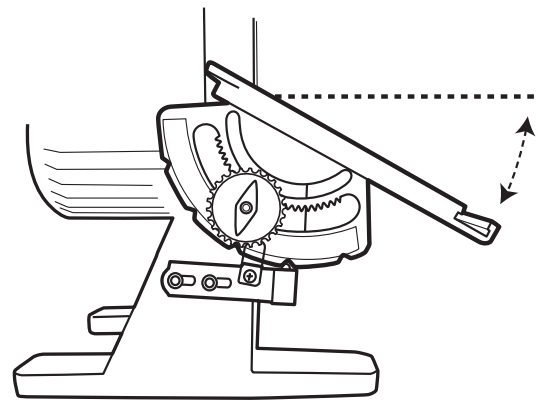
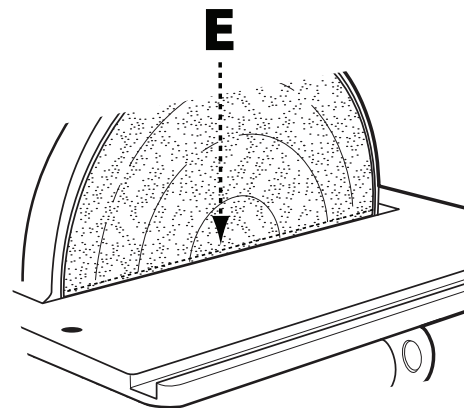

FIGURE 9
FIGURE 10
**⚠ WARNING:** Regardless of which position the table is tilted, the table edge (E), shown in Figure 10, must be no more than 1/16" from the sanding disc to avoid trapping the work or fingers between the table and sanding disc. To adjust the position of the table relative to the sanding disc, see "adjusting miter gauge slot alignment" on page 11.
**⚠ WARNING:** We suggest that all bevel sanding applications be performed with the table tilted down as shown in Figure 9; however, if there is a need to tilt the table up, the workpiece must be securely fastened or clamped to a fixture or jig to prevent the workpiece from being torn from hands and becoming trapped between the table and sanding disc. See Figure 10.